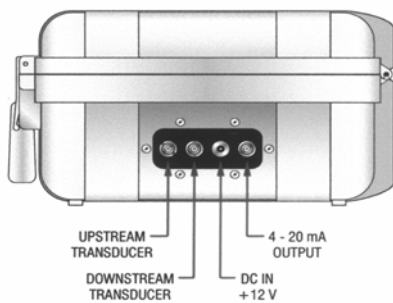

Figure 1.3
- B. Refer to the WIRING DIAGRAM located on the inner door of the HTTP transmitter and **Figure 1.3** for proper power and transducer connections.